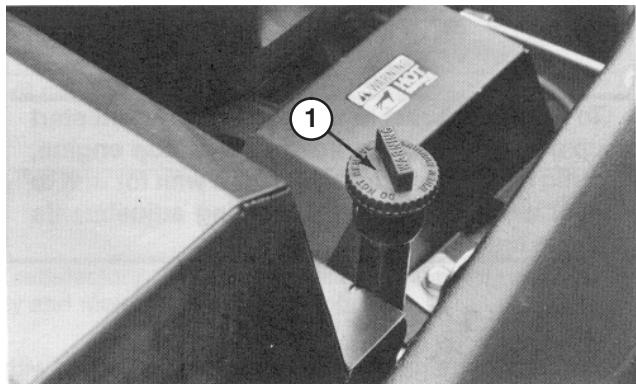

Figure 22
7. Remove the filler cap (Fig. 22) and pour approximately 3 quarts of oil having the API "service classification" SF or SG into the filler neck. The recommended viscosity (weight) of oil to use is SAE 30.